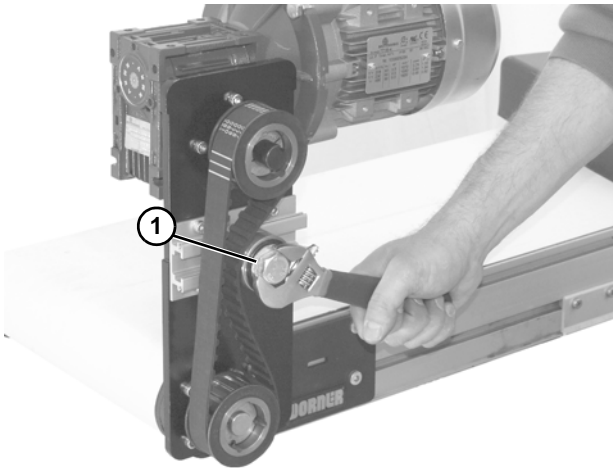

Figure 14
2. Loosen tensioner (**Figure 14, item 1**).